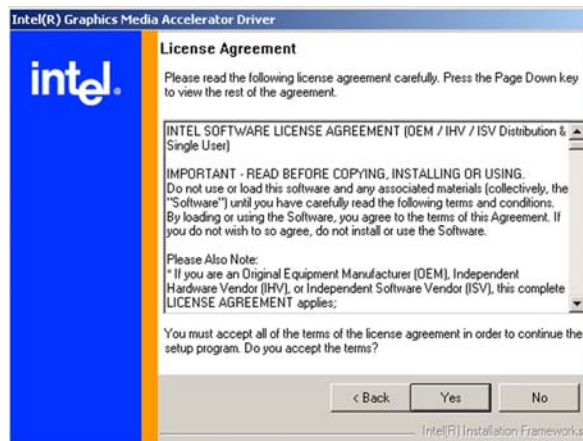

Figure 7-12: GMA Driver License Agreement
Step 25: The license agreement in **Figure 7-12** appears.
Step 26: Click the **YES** in **Figure 7-12** to continue.